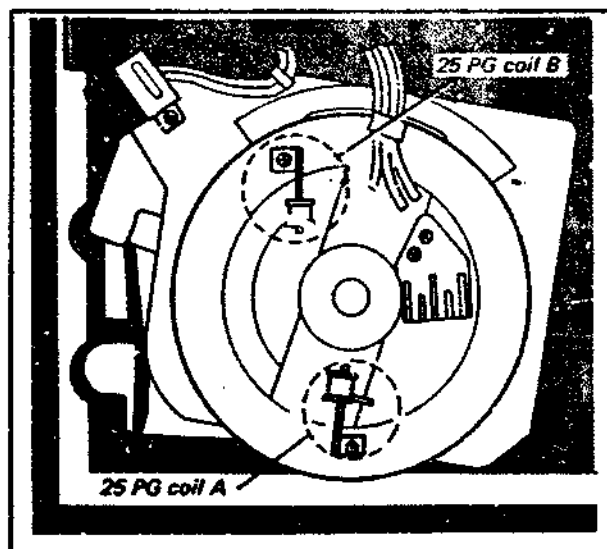

Fig. 6-8. 25 PG coils A and B
6. If it is correct, proceed to the "25 PG PULSE PHASE CHECK" in Sec. 6-9. If it is not correct, reposition 25 PG Coil A, which is mounted at the front of the scanner, at the six o'clock position. See Fig. 6-8. Be sure the motor is off when making this adjustment. Proceed as follows.